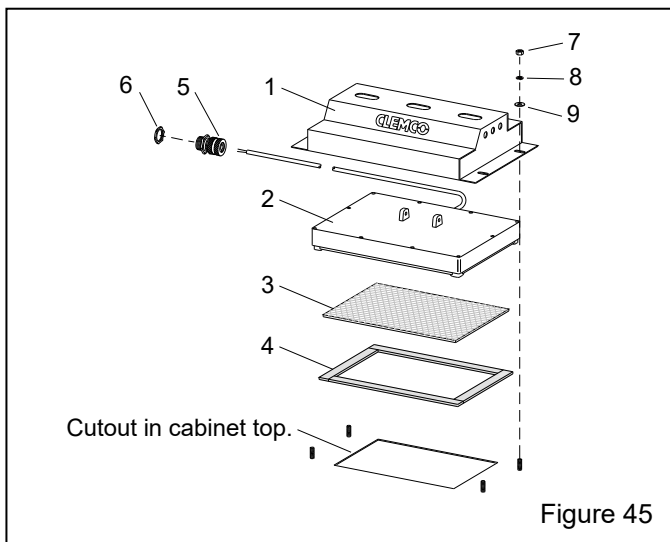

Figure 45
**9.4 LED Light Assembly – Figure 45**